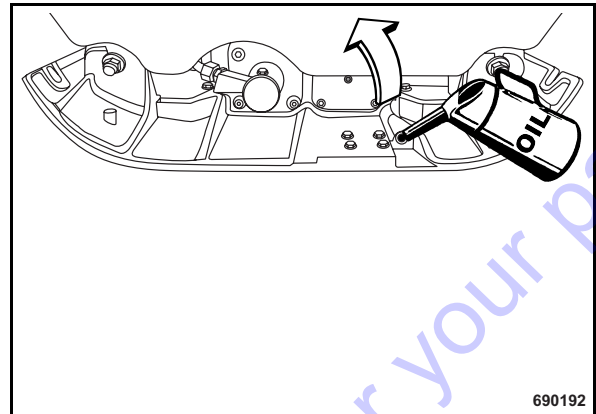

Fig. 72
- Fill in fresh engine oil through the drain opening (Fig. 72).